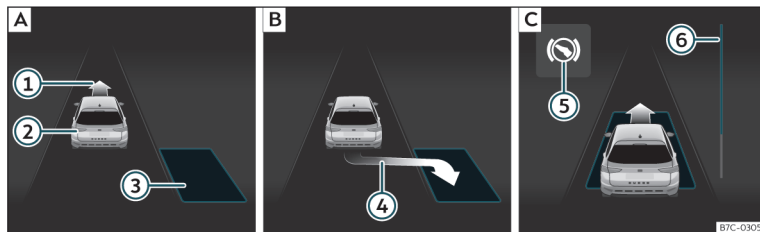
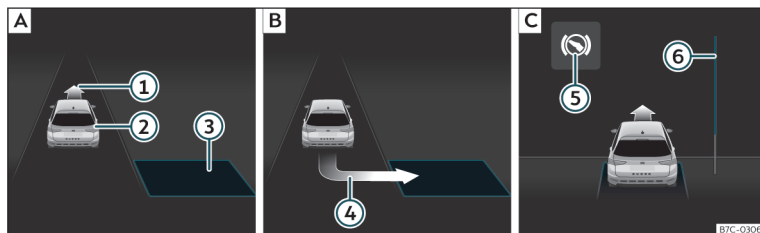

Fig. 180 On the instrument panel display: parallel parking. **[A]** Finding a parking space. **[B]** Parking position. **[C]** Manoeuvring.
Fig. 181 On the instrument panel display: angle parking. **[A]** Finding a parking space. **[B]** Parking position. **[C]** Manoeuvring.
- Look at the display on the instrument panel to see if the space has been detected as “appropriate” and if the correct position for parking has been reached»» **Fig. 180 [B]** or»» **Fig. 181 [B]**. The space is considered
- Reverse until the continuous ParkPilot signal sounds; **OR:** reverse until the indication to move forward appears on the instrument panel display >>> **Fig. 180** [C] or >>> **Fig. 181** [C]; **OR:** reverse until the **Park Assist finished** message appears on the instrument panel display. The progress bar ⑥ indicates the distance to cover >>> page 257.
- Press the brake pedal until the parking assist system completes the steering wheel turns; **OR:** until the symbol ④ goes out on the instrument panel screen.
- Move forward until the continuous ParkPilot signal sounds; **OR:** move forward until the reverse indication appears on the instrument panel display. The Park Assist system steers the vehicle forward and back until it centres it in the space >>> **Fig. 180** [C] or >>> **Fig. 181** [C].
The progress bar >>> **Fig. 180** ⑥ and >>> **Fig. 181** ⑥ on the screen of the instrument panel displays the relative distance to be covered. The greater the distance, the fuller the progress bar. When driving forward, the content of the progress bar decreases upwards, and when reversing, it decreases downwards.